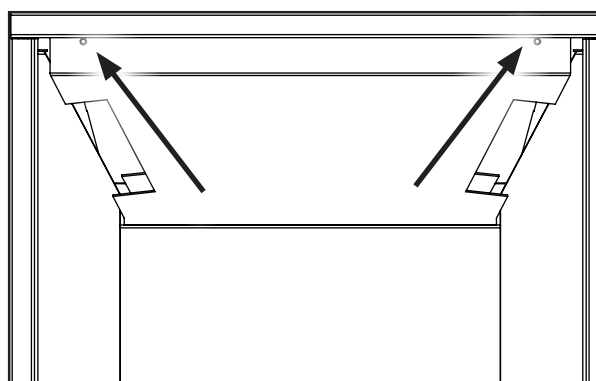

Figure 63. Top Panel Screws.
8. Install the top porcelain panel by screwing it to the firebox baffle as show in Figure 63 using the supplied screws.